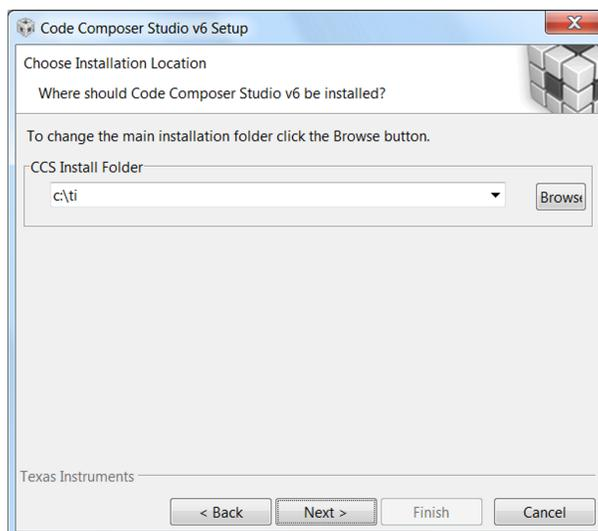

Figure 8. Default Installation Location for CCS
- Step 3. Choose a destination directory. Using the default (`c:\ti`) removes a step in the SDK installation procedure (see Figure 8).